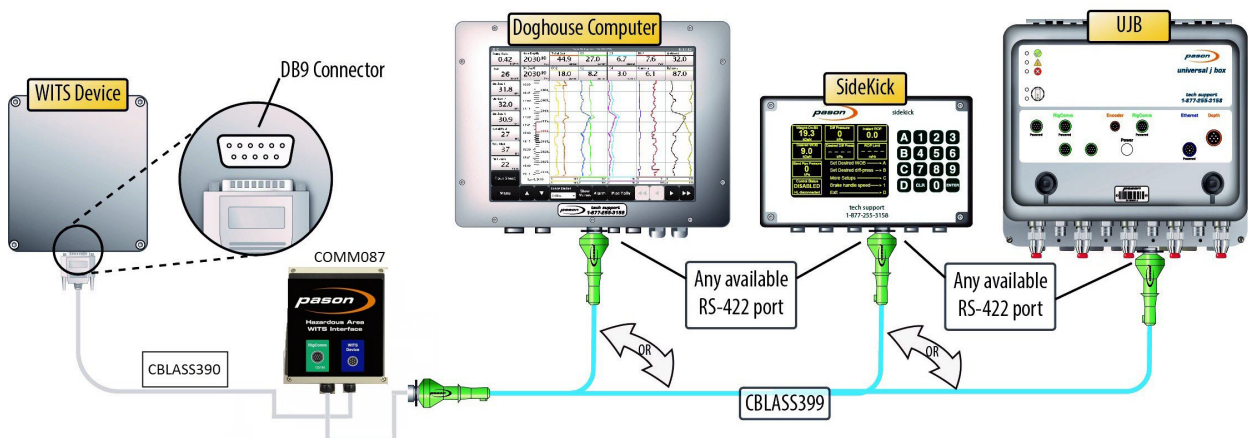

Figure 9: Connecting a WITS device to a DHC, SideKick, or UJB
3. Connect a RigComm RS-422 cable to the RigComm port on COMM087. Connect the other end to any available powered RS-422 port on the DHC, SideKick, or UJB, as shown in Figure 9. If connecting to a SideKick, use the 1ft Power Rignet Adapter cable (CBLASS862) to create the powered port.